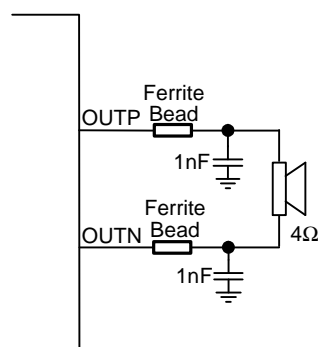
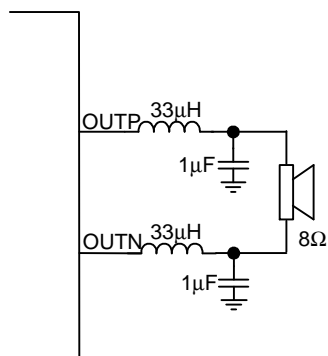
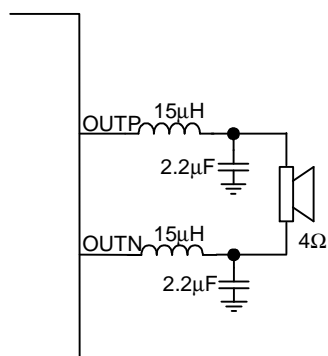

Figure 3. Ferrite Bead Output Filter
Figure 4. Typical LC Output Filter, Cutoff Frequency of 27 kHz, Speaker Impedance = 8Ω
Figure 5. Typical LC Output Filter, Cutoff Frequency of 27 kHz, Speaker Impedance = 4Ω
Figure 4 and Figure 5 are examples for added the LC filter (Butterworth), it's recommended for the situation that the trace from amplifier to speaker is too long, and needs to eliminate the radiated emission or EMI.
4. Output filter - The ferrite EMI filter (Figure 3) should be placed as close to the output terminals as possible for the best EMI performance. The LC filter (Figure 4 and Figure 5) should be placed close to the outputs. The capacitors used in both the ferrite and LC filters should be grounded to power ground.